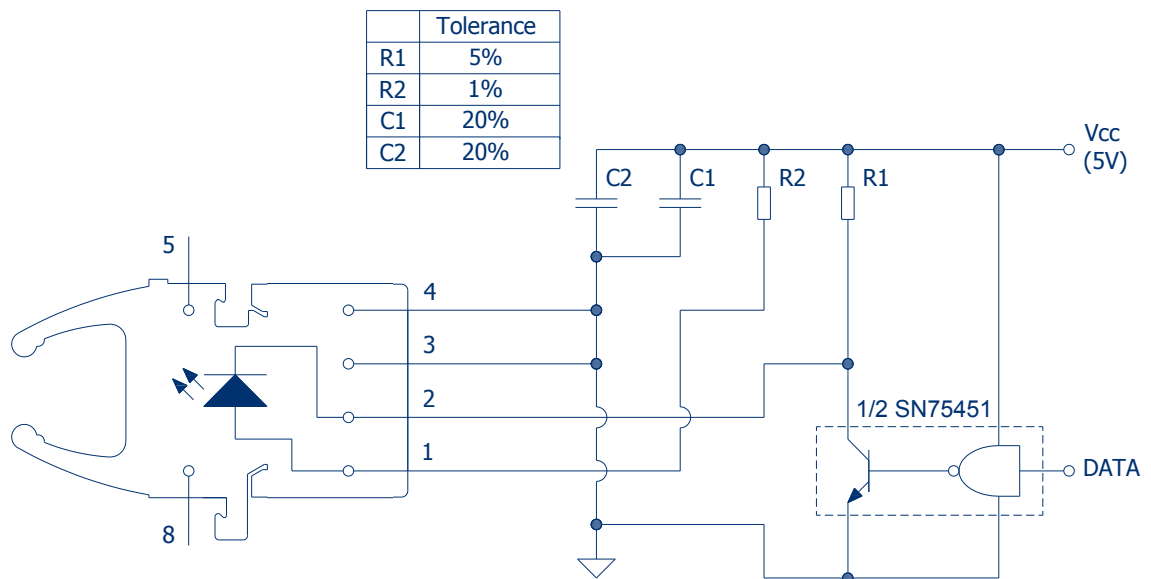

FIGURE 2.
Transmitter Propagation Delay and rise/fall time definitions as per application circuit of Figure 2
3. As measured in the given application circuit (inverting) as shown in Figure 2 with 50 cm of 0.5 NA POF